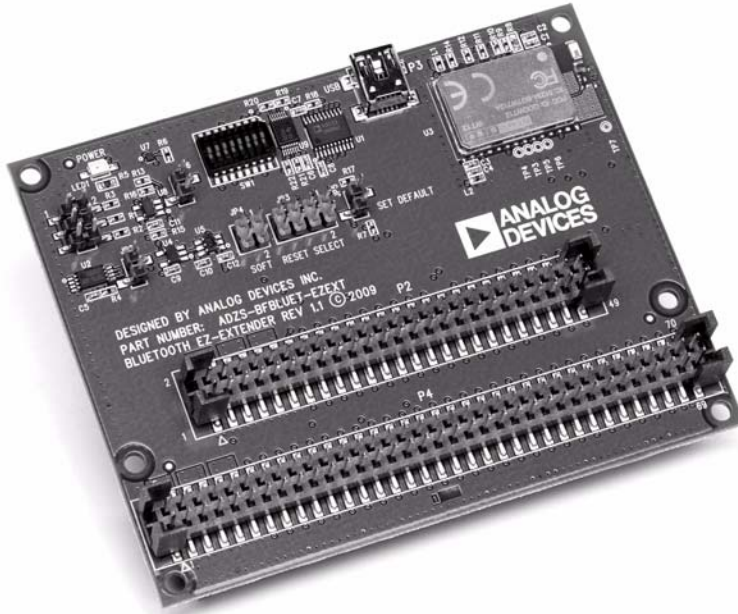

Figure 2-17. Blackfin Bluetooth EZ-Extender Daughter Board
The Blackfin Bluetooth EZ-Extender daughter board, as shown in Figure 2-17, plugs onto the compatible EZ-Board, EZ-KIT Lites, and STAMP board. The Blackfin Bluetooth EZ-Extender extends the capabilities of the Blackfin boards by providing a connection to a Bluetooth module. It also isolates the low-level configuration and communication tasks of integrating Bluetooth and radio frequency (RF) wireless technologies in your Blackfin board designs.